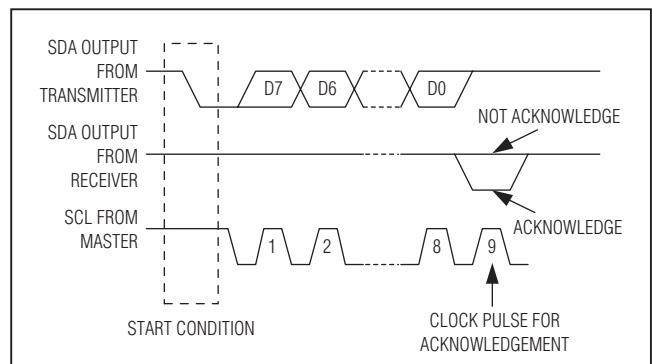

Figure 12. I²C Acknowledge
Both the master and the MAX8939 (slave) generate acknowledge bits when receiving data. The acknowledge bit is the last bit of each 9-bit data packet. To generate an acknowledge (A), the receiving device must pull SDA low before the rising edge of the acknowledge-related clock pulse (ninth pulse) and keep it low during the high period of the clock pulse (Figure 12). To generate a not acknowledge (NA), the receiving device allows SDA to be pulled high before the rising edge of the acknowledge-related clock pulse and leaves it high during the high period of the clock pulse.